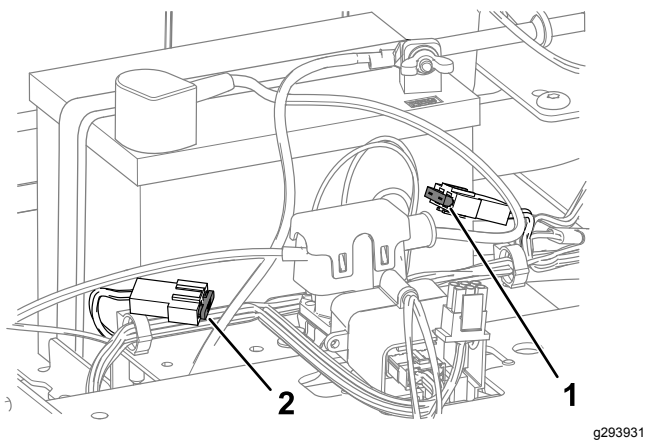

Figure 43
4. To replace a fuse, pull out the fuse to remove it (Figure 43).